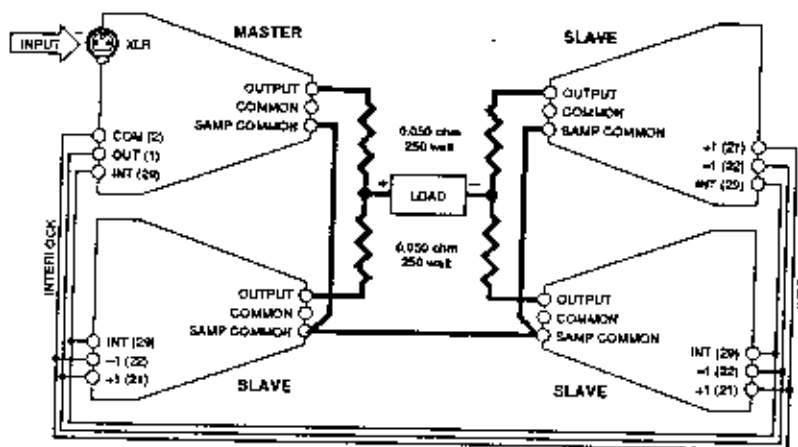

Fig. 3.23 Interlock Push-Pull Parallel System Wiring
A Push-Pull Parallel configuration gives the capability of greatly increasing both output voltage and output current at the same time. Care must be exercised with regard to wire lengths as in the Parallel configuration. Figure 3.23 shows the basic system connections.
4. Make an interlock cable as shown in Figure 3.23 and connect it to the 37-pin System Interlock connector of each amplifier.
6. Connect positive cables between the Output terminals of the amplifiers as shown in Figure 3.23. Include a 0.050 ohm, 250 watt power resistor (such as a Dale™ RH250) in series with the output of each amplifier. Be very careful that the cable length between each amplifier varies by no more than 1/4 inch.
7. Connect the load across the output cables as shown in Figure 3.23 where the positive side of the Load connects to the output cable of the MASTER amplifier. The load should be connected in such a way that the cable lengths feeding it from the output of each amplifier vary no more than 1/4 inch from each other.